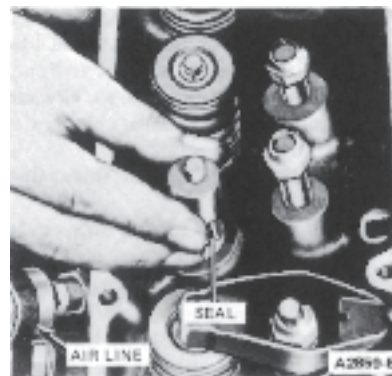

Fig. 12 Removing or Installing Valve Stem Seal
5. Remove and discard the valve stem seal (Fig. 12).
3. Install a new valve stem seal (Fig. 12). Place the spring in position over the valve and install the valve spring retainer and sleeve, if so equipped. Compress the valve spring and install the valve spring retainer locks. Remove the compressor tool and stud nut.